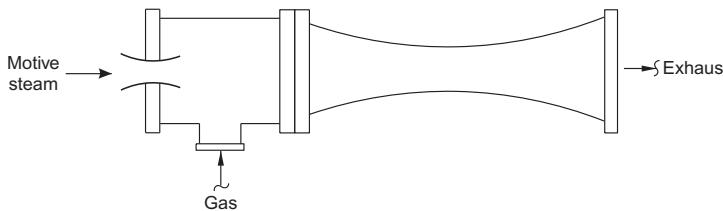

FIG. 27.1 Converging-diverging ejector.
“My main interest with steam is its widespread use in petroleum refinery steam ejectors. I’ve written a book on this subject [1]. In Fig. 27.1, I’ve shown a sketch of a converging-diverging steam ejector. Most of the electricity which we generate on earth relies on use of the ejector. About 30% of clean products are recovered from black crude oil by use of the steam ejector. Most of our giant rotary engines, which we call steam turbines, also rely on this steam vacuum ejector. The vacuum ejector is a gas compressor, but without any moving mechanical parts.”
“Yes. The high pressure steam at 170 psia and 400°F shown in Fig. 27.1, enters the steam nozzle at 200 ft per second. Due to the shape of the nozzle, the steam exits from the steam nozzle at 10,000 ft per second and typically a pressure of 0.4 psia (20 mm of Hg, absolute). That increase in the velocity of the steam represents a great increase in the kinetic energy or the momentum (mass times velocity) of the steam.”
“Here’s the problem. It’s the kinetic energy of the steam that compresses the air leaks. The faster the steam blows out of the steam nozzle, the more compression work it can do on the noncondensable air leaks. As the steam slows down through the diffuser (see Fig. 27.1), its velocity or kinetic energy or momentum, is converted into pressure in accordance with Bernoulli’s principle. But the kinetic energy of the steam is derived from its heat content. If the steam is very wet, then the water evaporates into steam as it comes out of the steam nozzle. That robs the steam of some of its heat content or enthalpy, which would otherwise be used to convert to kinetic energy.
“That is, moisture slows the steam as it leaves the steam nozzle. Slow steam can’t compress the noncondensable gas as efficiently as high velocity steam. The compression ratio inside the diffuser (see Fig. 27.1) is reduced. Since the discharge pressure of the ejector is fixed by the condensing pressure in the downstream condenser, the pressure at the suction of the ejector must increase.”
- Check the pipe temperature of the steam supply line to the ejector, and compare it to the temperature of the ejector's diffuser inlet (Fig. 27.1) (using an infrared temperature gun).